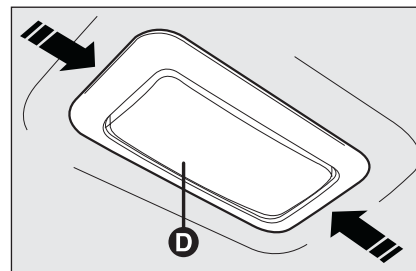
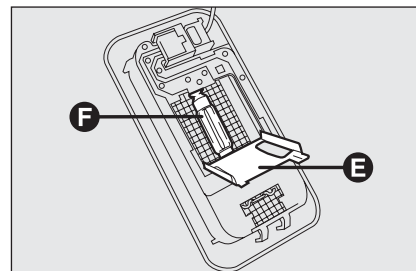

fig. 31
fig. 32
- work in the points shown by the arrows and remove light **D**-fig. 31;
- open the protection lid **E**-fig. 32;
- change the bulb **F**-fig. 32 releasing it from the side contacts and making sure the new bulb is correctly fastened between the contacts;
- re-close the protection lid **E**-fig. 32 and secure light **D**-fig. 31 into its housing locking it properly.